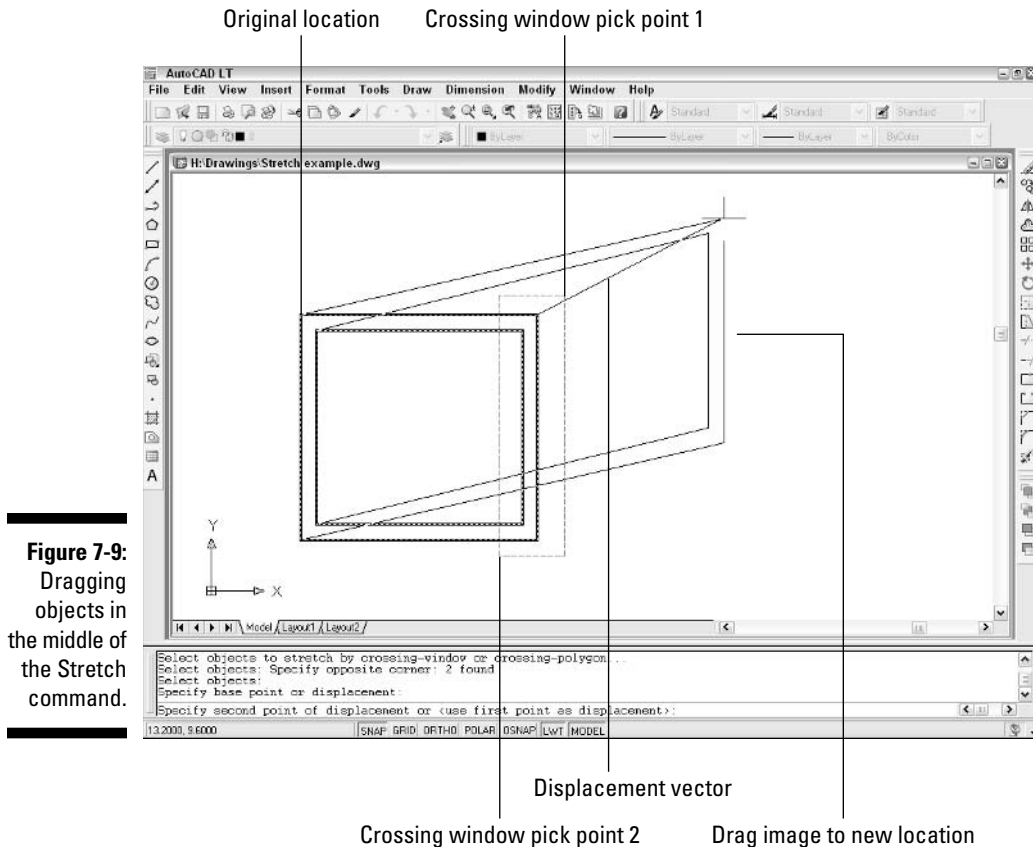

Figure 7-9:
1. Draw some lines in an arrangement similar to the dark lines shown in Figure 7-9.
Figure 7-9 shows a sample crossing selection box that completely encloses the two vertical lines on the right side of the figure. This crossing selection box cuts through the four horizontal lines, enclosing only one end-point of each.
Figure 7-9 shows what the screen looks like as you move the cursor around with ortho off.